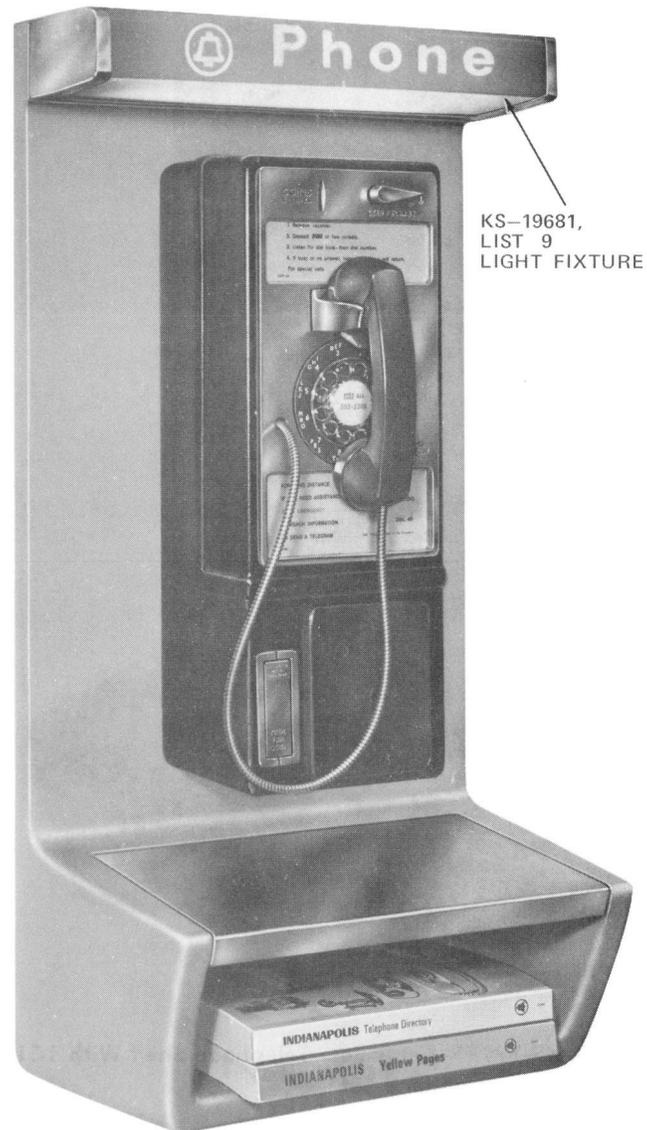
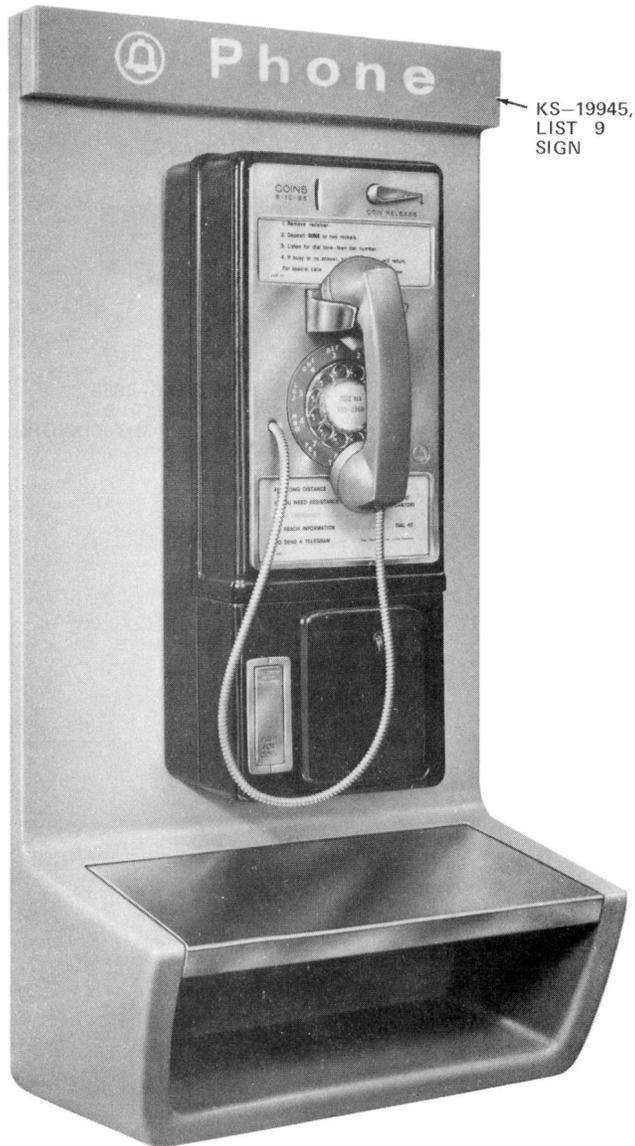
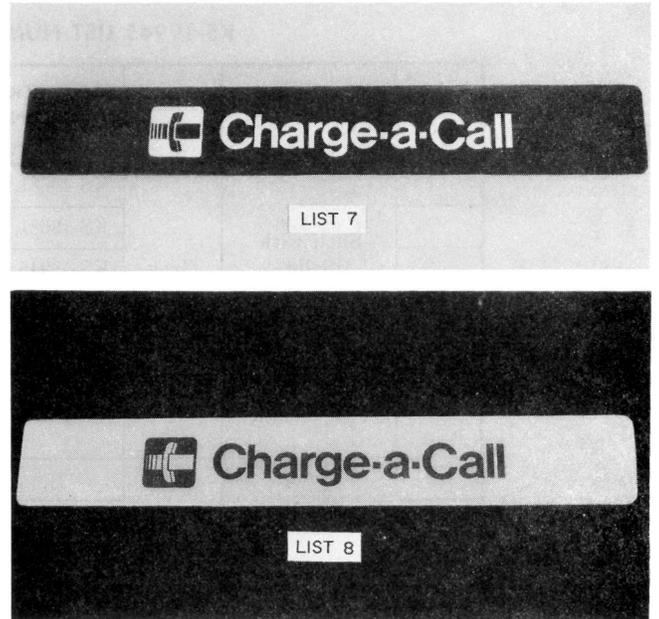

Fig. 1—KS-19945, List 1 Coin Telephone Shelf With 1C1 Coin Telephone Set
Fig. 2—KS-19945, List 3 Coin Telephone Shelf With 1C1 Coin Telephone Set
Fig. 5—KS-19945, Lists 7 and 8 Signs (Nonilluminated)
2.01 The KS-19945 coin telephone shelf (Fig. 1 through 4) is a wall mounted Fiberglass reinforced polyester molded unit intended for indoor use only.
2.05 The shelf is designed for a KS-19945, List 7 or 8 nonilluminated “Charge-a-Call” sign (Fig. 5), a List 9 or 10 nonilluminated “Phone” sign (Fig. 2), a KS-19681, List 9 or 10 illuminated “Phone” sign (Fig. 1), or a List 11 or 12 illuminated “Charge-a-Call” sign (diffuser, Fig. 8).
2.06 The shelf will accept a 1A/1C/1D/1E-type coin telephone set (Fig. 1) or a 10A coinless telephone set.
3.18 The Lists 7 and 8 signs (Fig. 5) are adhesive backed plastic. To install, peel off the paper backing and stick on.